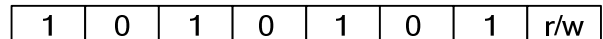

Figure 7: I2C Compatible Device Address
After the start condition, the I2C-compatible master sends a 7-bit address followed by an eighth read (1) or write (0) bit. The following bit indicates the register address to or from which the data is written or read (see Figure 7).